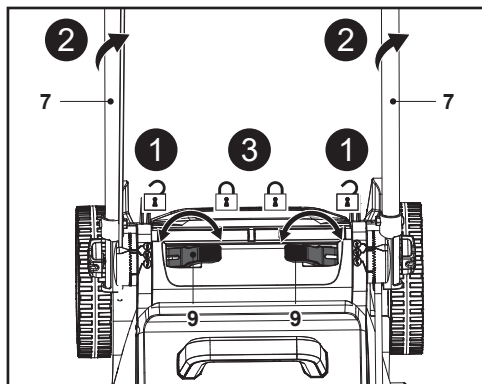

Fig. 9
2. Unfold the two clamp levers (9) with the other hand and then swing the handle assembly (5, 7) to the other handle height position (Fig. 9, steps 1, 2).
3. Ensure that the indicating triangle (7b) is aligned with the handle height indicator (10b/10c), then fold the two clamp levers (9) to secure the handle assembly (5, 7) (Fig. 9, step 3).